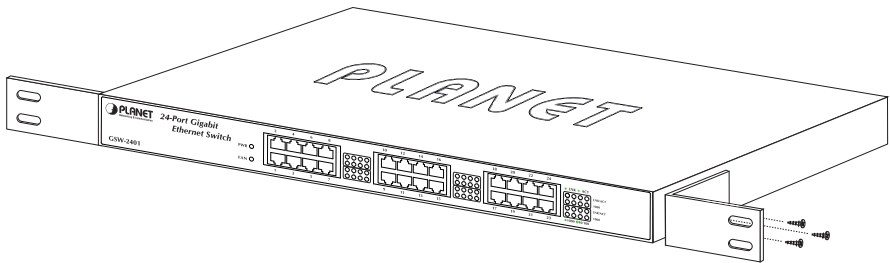

Figure 2-5 Attaching the brackets to the Gigabit Ethernet Switch
- Step 2: Attach a rack-mount bracket to each side of the Switch with supplied screws attached to the package. Figure 2-5 shows how to attach brackets to one side of the Gigabit Ethernet Switch.